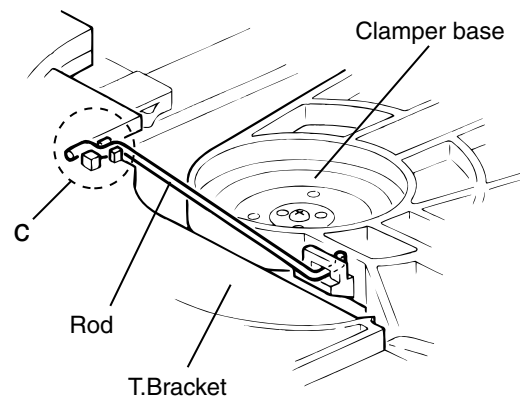

Fig.2
### ■ Removing the DVD tray assembly (See Fig.2~4)
6. From the clamber base section c, remove both of the edges fixing the rod(See Fig.2 and 3).